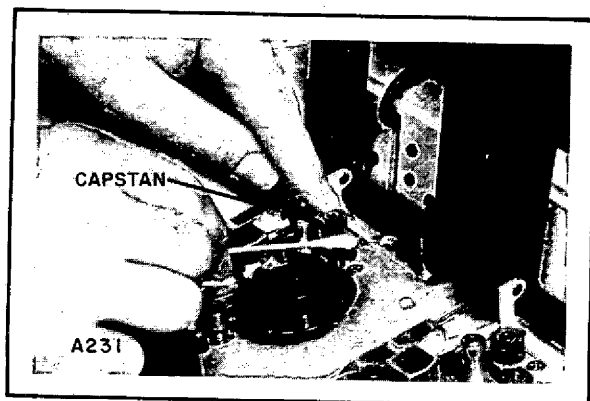

Fig. 4-4. Cleaning the Capstan After Leader Removal
- e. Wet a cotton swab with Freon liquid. Scrub the two tape heads, tape guides, and the capstan. The capstan must be held while being scrubbed, as shown in figure 4-4. The scrubbing motion must be from the side in order to clean the area where the tape moves. Keep the cotton swab wet, and replace it if it becomes dirty.